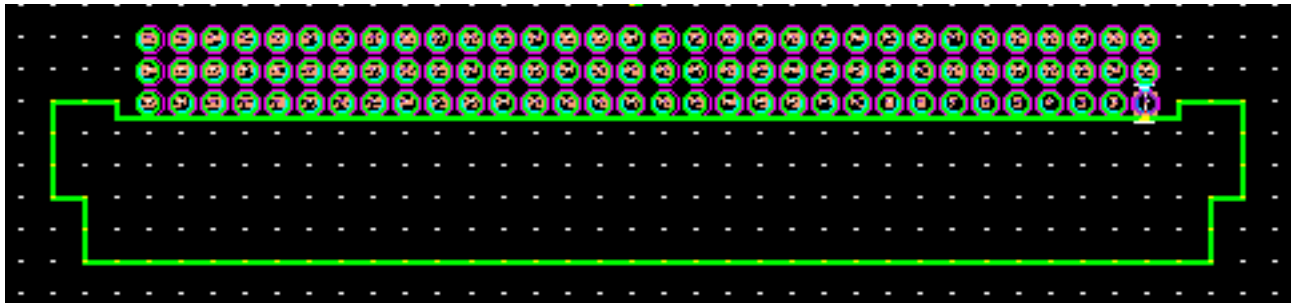

Figure 3-23. The Connector Outline Added
11. Draw the connector body. Refer to Figure 3-23.